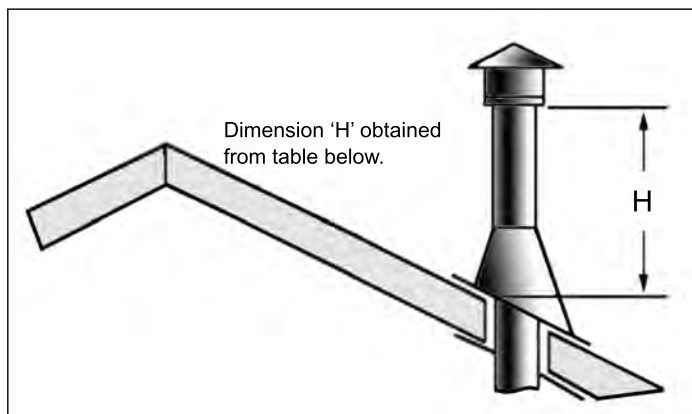

Figure 37: Height of Vertical Termination; Reference Table 7.
- STEP 8.** Continue to add pipe sections until the height of the vent cap meets the minimum code requirements. Refer to Figure 37 and Table 7. Note that for steep roof pitches, the vent height must be increased. In high wind conditions, nearby trees, adjoining roof lines, steep pitched roofs, and other similar factors can result in poor draft, or down drafting. In these cases, increasing the vent height may solve the problem.
Table 7: Minimum 'H' for Figure 37.